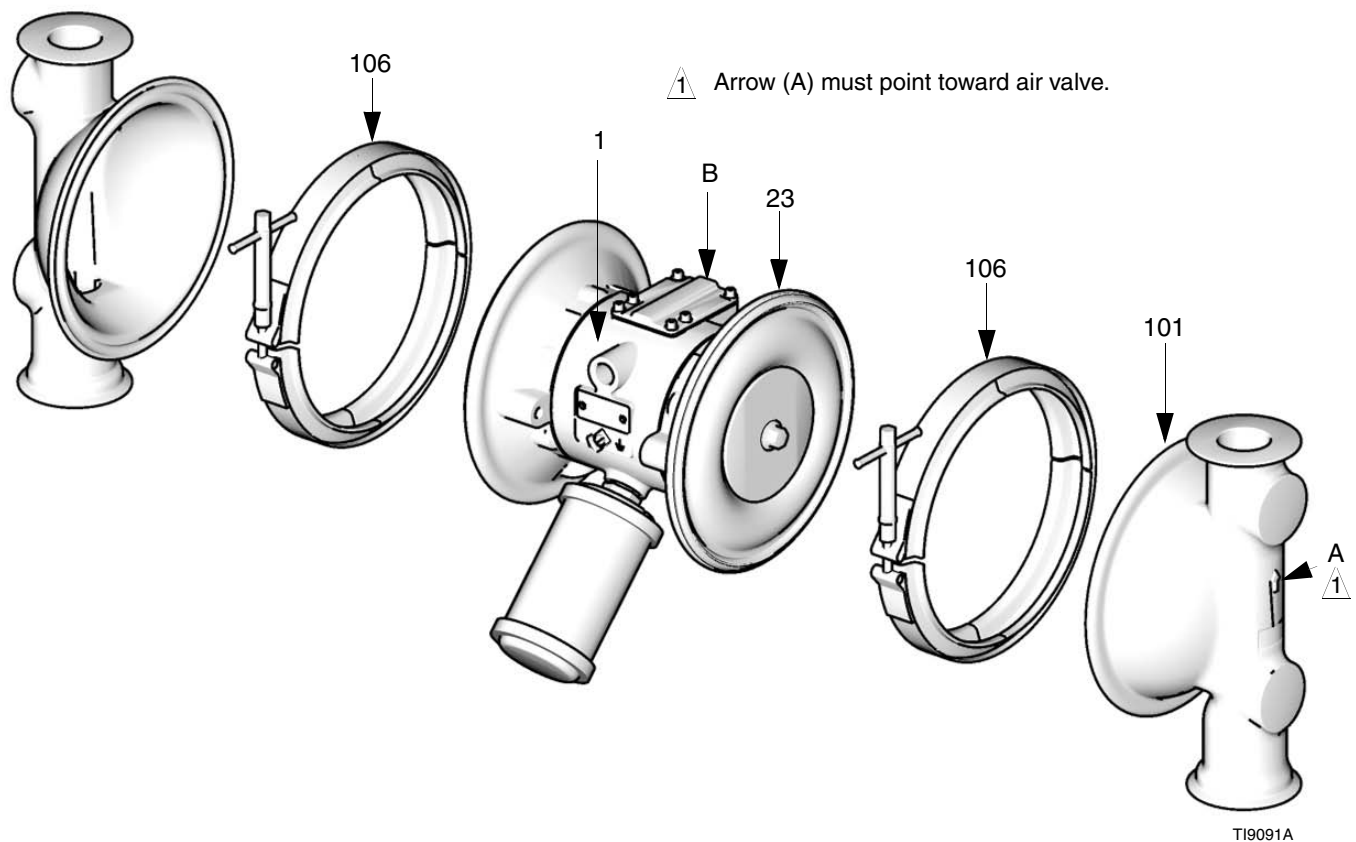
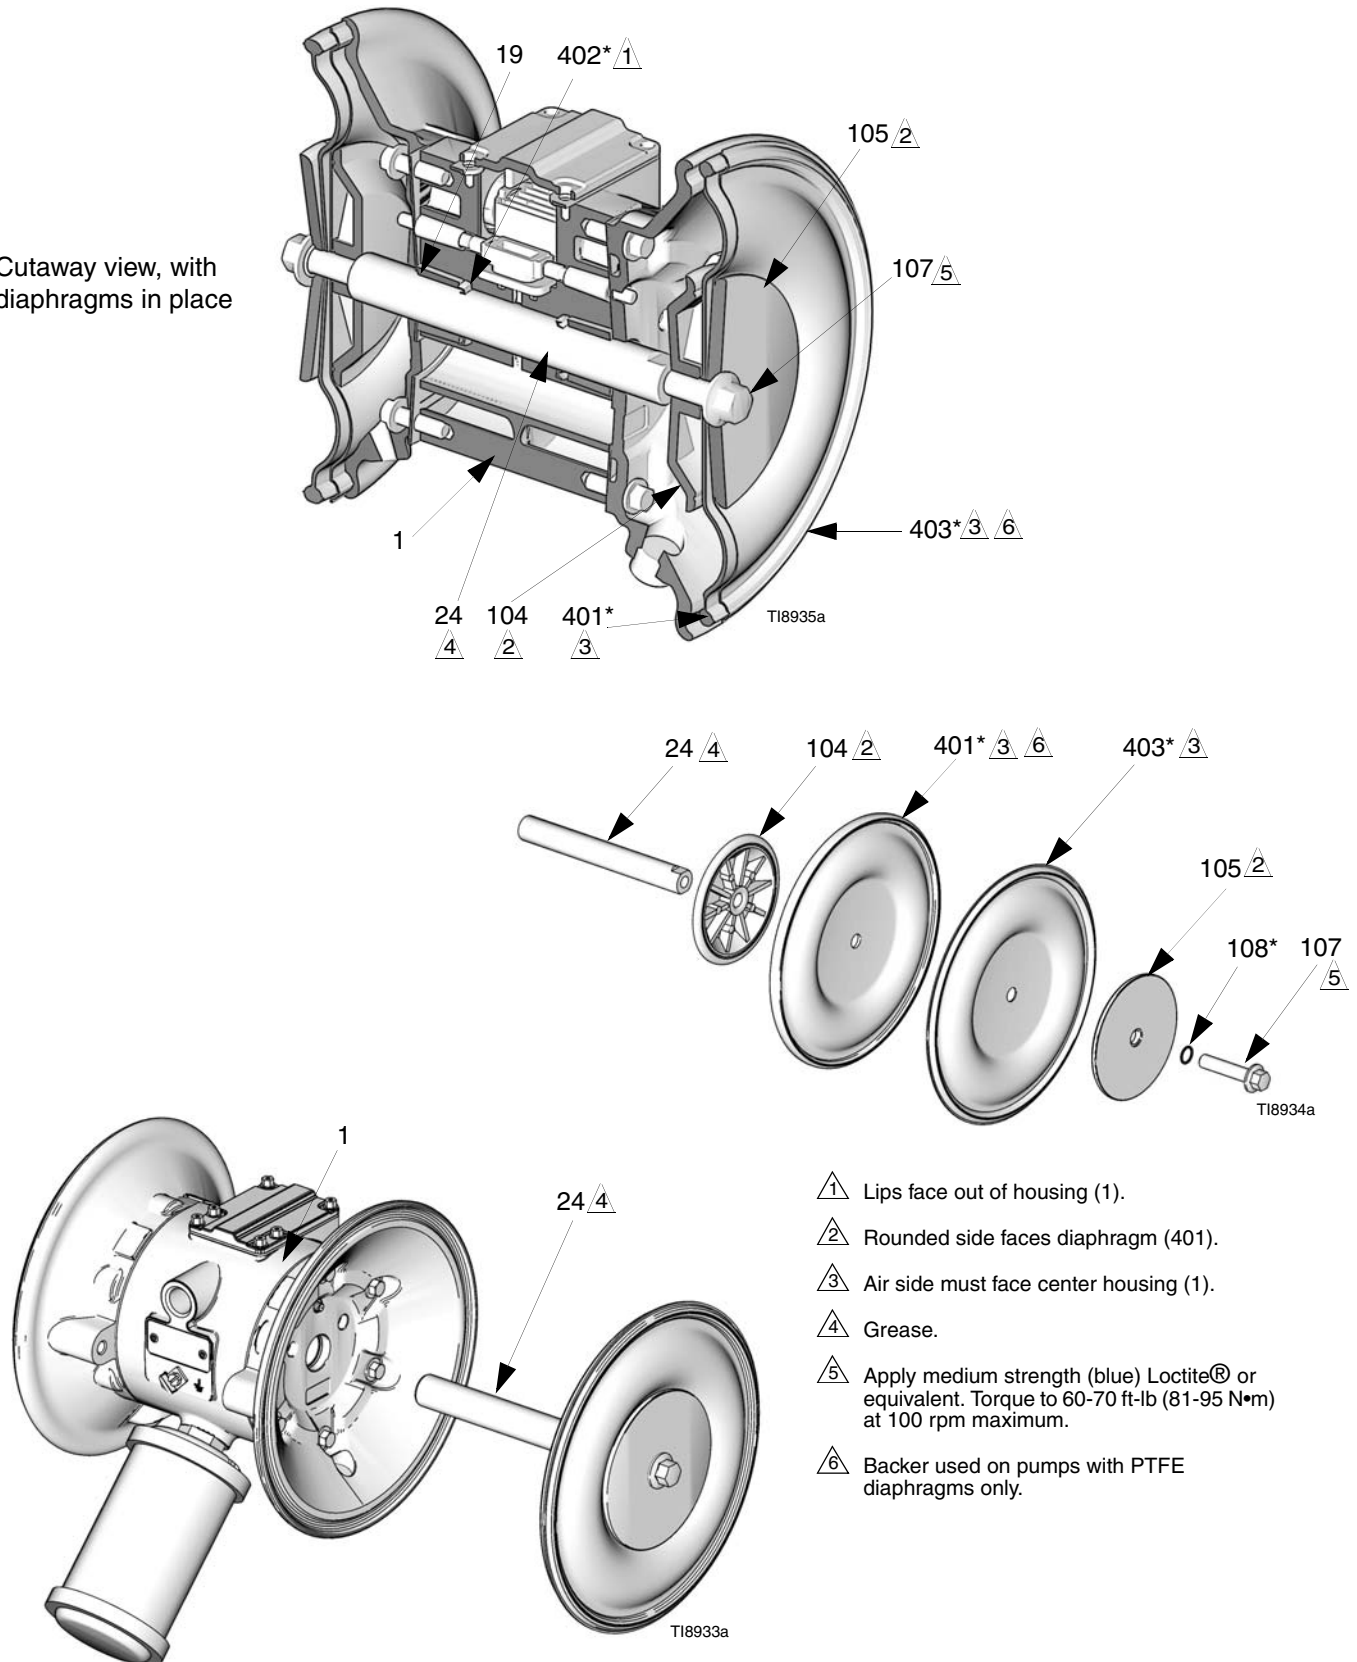

FIG. 10
FIG. 11
3. Remove the clamps (106) holding the fluid covers (101) to the air covers (23). Pull the fluid covers (101) off the pump. See FIG. 10.
4. Loosen but do not remove the diaphragm shaft bolts (107), using a 15 mm socket wrench on both bolts. See FIG. 11.
5. Unscrew one bolt from the diaphragm shaft (24) and remove the o-ring (108), fluid side diaphragm plate (105), diaphragm (403), backer (401) used only on PTFE models, and air side diaphragm plate (104). See FIG. 11.
6. Pull the other diaphragm assembly and the diaphragm shaft (24) out of the center housing (1). Hold the shaft flats with a 19 mm open end wrench, and remove the bolt (107) from the shaft. Disassemble the remaining diaphragm assembly.
7. Inspect the diaphragm shaft (24) for wear or scratches. If it is damaged, inspect the bearings (19) in place. If the bearings are damaged, refer to page 24.
8. Reach into the center housing (1) with an o-ring pick and hook the u-cup packings (402), then pull them out of the housing. This can be done with the bearings (19) in place.
- d. On PTFE models only, install the backer (401*) on the bolt. Make certain the side marked AIR SIDE faces the center housing (1).
- e. Install the air side diaphragm plate (104) so the rounded side faces the diaphragm (401). This plate is stamped with its part number.
- f. Apply medium-strength (blue) Loctite® or equivalent to the bolt (107) threads. Screw the bolt into the shaft (24) hand tight.
3. Grease the length and ends of the diaphragm shaft (24), and slide it through the housing (1).
5. Hold one shaft bolt (107) with a wrench and torque the other bolt to 60-70 ft-lb (81-95 N•m) at 100 rpm maximum.
6. Align the fluid covers (101) and the center housing (1) so the arrows (A) on the covers face the same direction as the air valve (B). Secure covers with the clamps. See FIG. 10.
1. Install the shaft u-cup packings (402*) so the lips face **out** of the housing (1). Lubricate the packings. See FIG. 11.
2. Install the diaphragm assembly on one end of the shaft (24) as follows:
- a. Install the o-ring (108*) on the shaft bolt (107).
- b. Install the fluid side diaphragm plate (105) on the bolt so the rounded side faces the diaphragm (401).
6. Remove the air cover gaskets (22). Always replace the gaskets with new ones.
7. Use a bearing puller to remove the diaphragm shaft bearings (19), air valve bearings (12) or pilot pin bearings (15). Do not remove undamaged bearings.
8. If you removed the diaphragm shaft bearings (19) reach into the center housing (1) with an o-ring pick and hook the u-cup packings (402), then pull them out of the housing. Inspect the packings. See FIG. 11.
1. If removed, install the shaft u-cup packings (402*) so the lips face **out** of the housing (1). See FIG. 11.
2. The bearings (12, 15, and 19) are tapered and can only be installed one way. Insert the bearings into the center housing (1), **tapered end first**. Using a press or a block and rubber mallet, press-fit the
- 2 Press-fit bearings flush with surface of center housing (1)